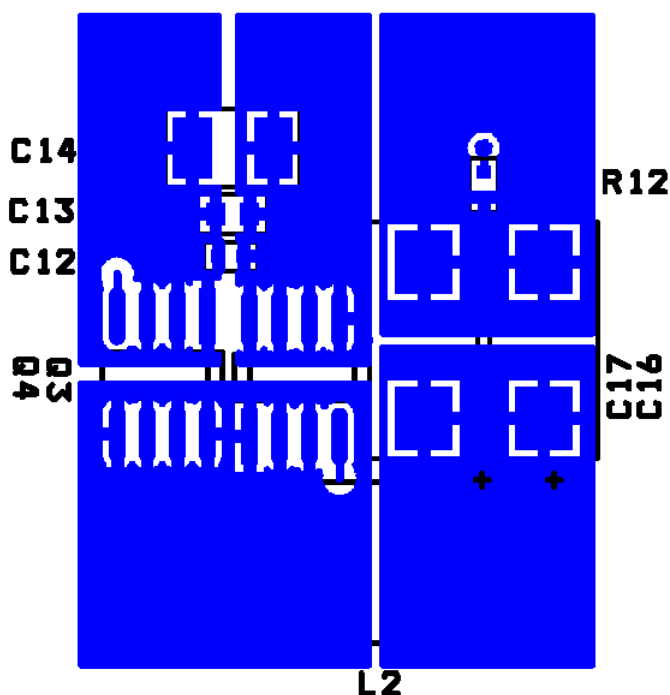

Figure 13: Power Component Placement and Copper Pours
The schematic has been redrawn to emphasize the input loop. The highest di/dt s occur in the input loops and thus these should be kept as small as possible. The input capacitors should be placed with the highest frequency capacitors closest to the loop to reduce EMI. Use large copper pours to minimize losses and parasitics. Exactly the same philosophy applies to the OUT1 power section and input loop. Figure 13 below shows an example of the layout for the power section using these guidelines.
- 6) Notice in Figure 13 placement of 0Ω resistor at the bottom of the output capacitor to connect to VSSA1/2 for each output.